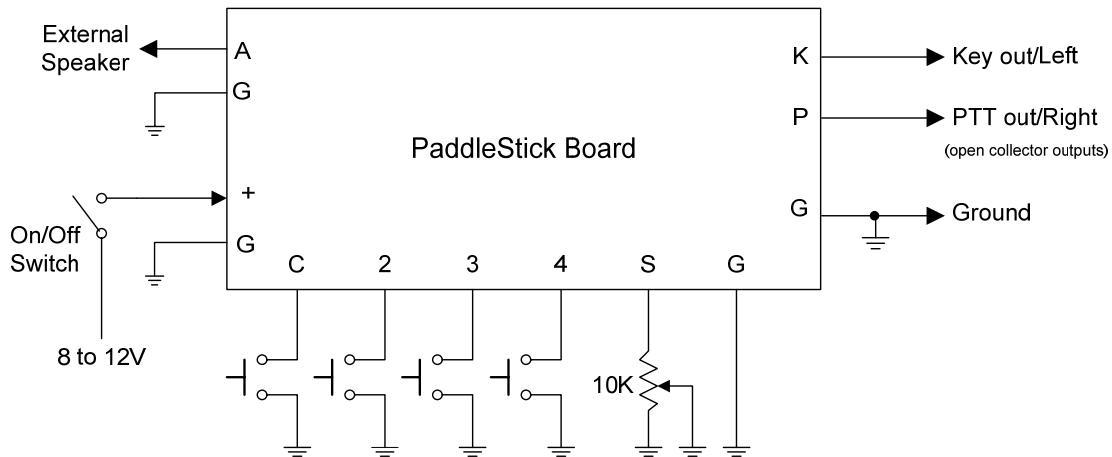

Figure 14 - PaddleStick Connection Diagram
Figure 14 illustrates the various connections to the PS1B. There are many options available. Not all pushbuttons are required, PS1B will work fine with a single pushbutton tied to the command (C) input. Alternatively, 2, 3, or 4 message pushbuttons can be connected. The more pushbuttons, the more messages can be accessed. A speed pot is not a requirement, if you don't want to use one simply tie the **S** input to ground, this will tell the K16-PS to operate in fixed speed mode. The speed then is changed using the S command. If you do want a speed pot, find a 10K linear taper potentiometer. Wire it up so that the bottom of the potentiometer goes to ground and the wiper goes to the PS1B **S** input pad.